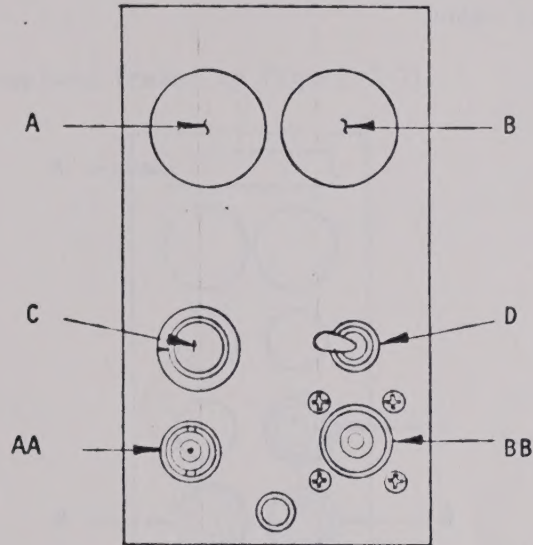

Figure 2-1
2.1 Front Panel Controls (refer to Figure 2-1)